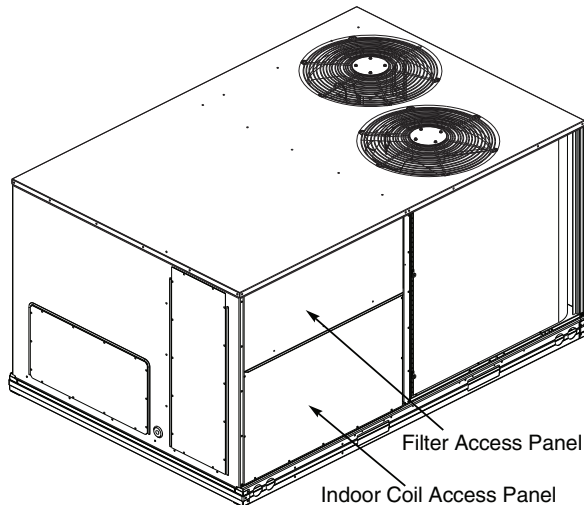

Fig. 10 — Typical Access Panel Locations
1. To gain access to the hood, remove the filter access panel. (See Fig. 10.)